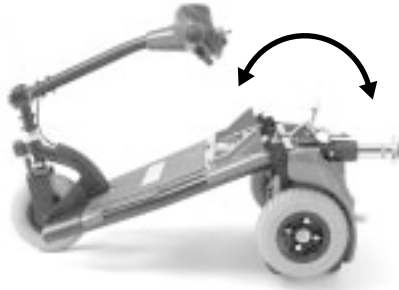

Figure 16. Frame Positioning
1. Push back on the seat post to pivot the scooter's rear section rearwards until the rear section is standing vertically on its rear bumper. See figure 16.
3. Holding the seat post, slowly pivot the rear section forward until the curved locking brackets are fully connected onto the top rear pegs. See figure 16.